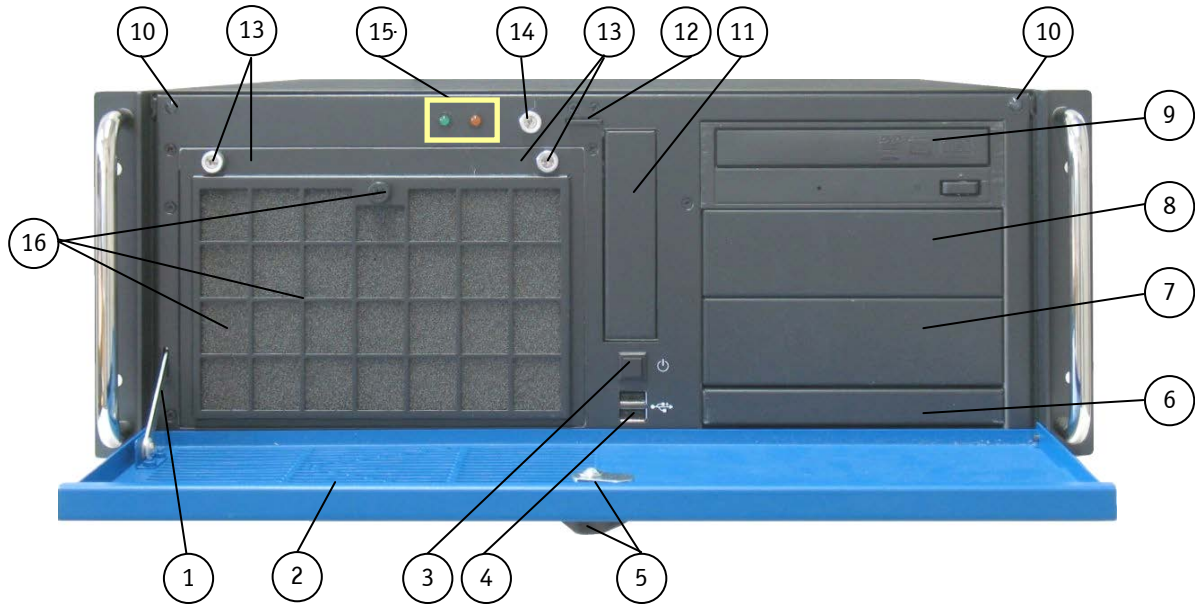
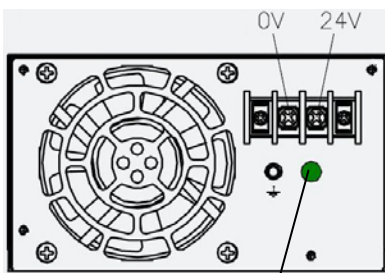
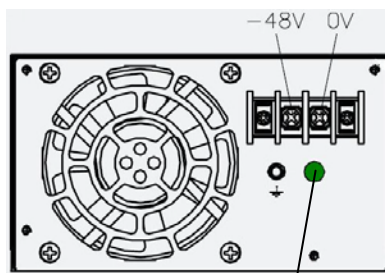

Fig. 12: Front side (rackmount version) with opened access panel
Fig. 21: Detail:
Fig. 22: Detail:
Legend for Fig. 12 and Fig. 13:
The KISS 4U V2 platform is equipped with two USB interfaces on the front side (see Fig. 12, pos. 4 and Fig. 14, pos. 2). You can connect various USB devices to these two USB 2.0 interface connectors.
The power button (see Fig. 12, pos. 3 and Fig. 14, pos. 1) is located on the front side of the system, behind the front access panel. Press this button to turn the system on or off.
When the KISS 4U V2 system is powered on with the power button (Fig. 12, pos. 3) the green Power-ON- LED (Fig. 21 and Fig. 22) of the DC PSU (on the rear of the system) lights up.
Even when the system is turned off via the power button (Fig. 12, pos. 3) there is still a standby-voltage of 5 Vsb on the motherboard or SBC.
The indicators (see Fig. 12, pos. 15) of the KISS 4U V2 platform are located on the front side, behind the front access panel.
The cover fastening screw (Fig. 12 and Fig. 13, pos. 14) secures the cover to the chassis on the front side.
- The cover fastening screw (Fig. 12 and Fig. 13, pos. 14 and Fig. 28) on the front side
The two system fans are integrated in a user-friendly, replaceable fan slide-in module (hot-swap) (see chapter 8.3 “Fan Slide-in Module and Temperature Sensor”). The fan slide-in module (Fig. 12 and Fig. 13, pos. 13) can be replaced during operation (see chapter 10.2 “Replacing the System Fans”).
The filter mat and the filter mat holder (Fig. 12 and Fig. 13, pos. 16) are located behind the air grilles of the front access panel (Fig. 10, pos. 3). The filter mat holder is fastened to the fan slide-in module (Fig. 12 and Fig. 13, pos. 13) via two knurled screws and two positioning plates. A filter mat is inserted in the filter mat holder. This filter mat protects your system against dust and dirt (see chapter 10.1 "Cleaning the Filter Mat").
Depending on the ordered system configuration, the system can be equipped with up to five drives on the front side (see Fig. 12 and Fig. 13, pos. 6, 7, 8, 9, 11):
The green Power-ON LED (Fig. 21 and Fig. 22) of the 24VDC / -48VDCPSU (on rear side of the system) lights up, only when the KISS 4U V2 systems is powered on with the power button (Fig. 12, pos. 3).